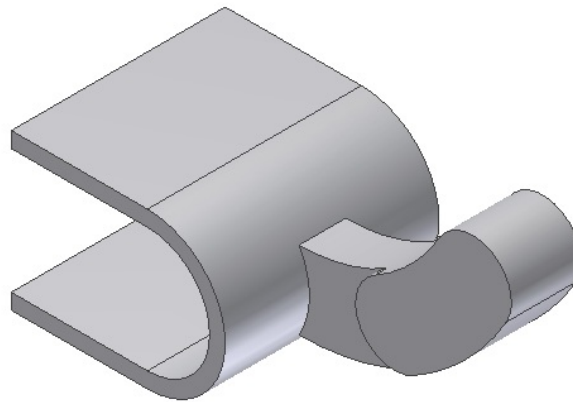

Figure 7-51 Model after creating the second join feature
- c. Again, define a new sketch plane on the XZ plane and draw the sketch for the second join feature. Extrude this feature using the **Symmetric** option, refer to Figure 7-51.
4. Exit the sketching environment and then extrude the sketch to a distance of 18 mm using the **Join** operation and the **Symmetric** option, see Figure 7-51.